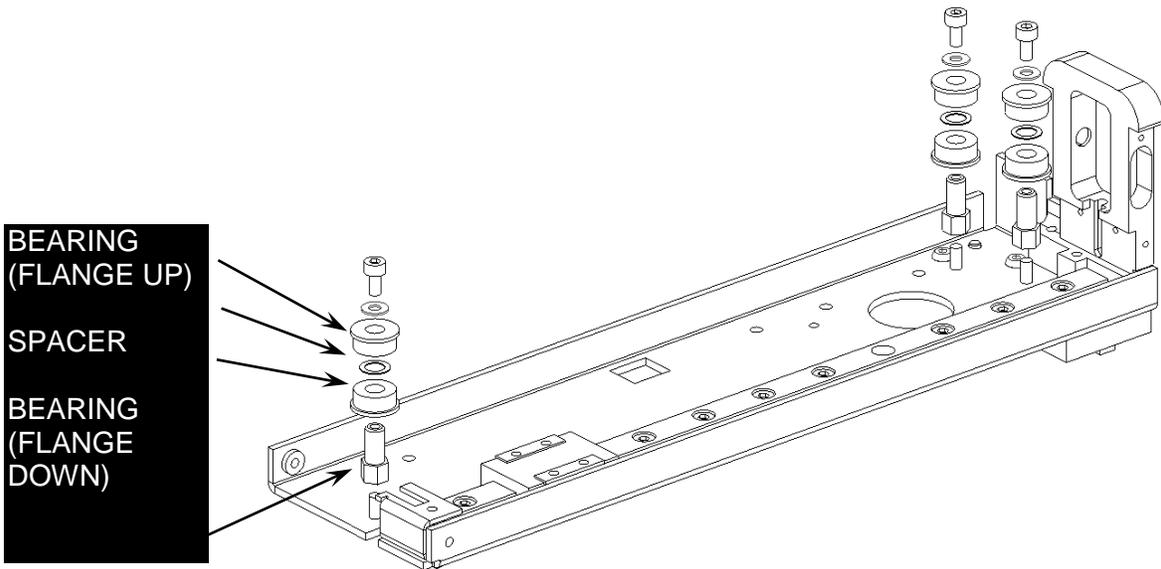

Figure 7-56: Stepped Idler Shaft
1. For the Eccentric Idler Shaft, use one Idler Bearing with the flange facing down, one Stainless Steel Spacer, and a second Idler Bearing with the flange facing up and the Z Eccentric Idler Shaft Spacer (Figure 7-56).